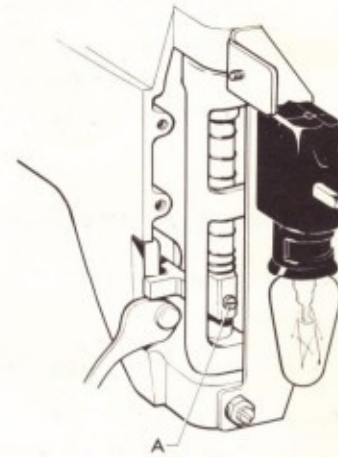

Fig. 6
2. Loosen screw (A) in Fig. 6 slightly.
4. Turn hand wheel toward you slowly and check to see the needle clamp screw does not hit presser foot. Tighten screw (A) in Fig. 6 securely.